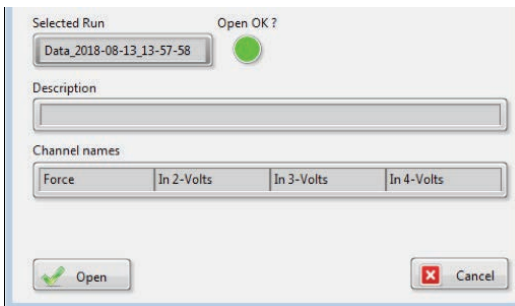

Fig. 23—The *Open Data File* dialog box displays the user-entered description in the *Description* text box.
- **Prompt for description at experiment start**—Select this check box to allow you to enter a brief description of each experimental run and attach that notation to the recording. Entering descriptions for each run makes a file easier to locate when it is needed again. For example, the description entered in this text box appears in the *Open Data File* dialog box next to the file run number (Fig. 23).